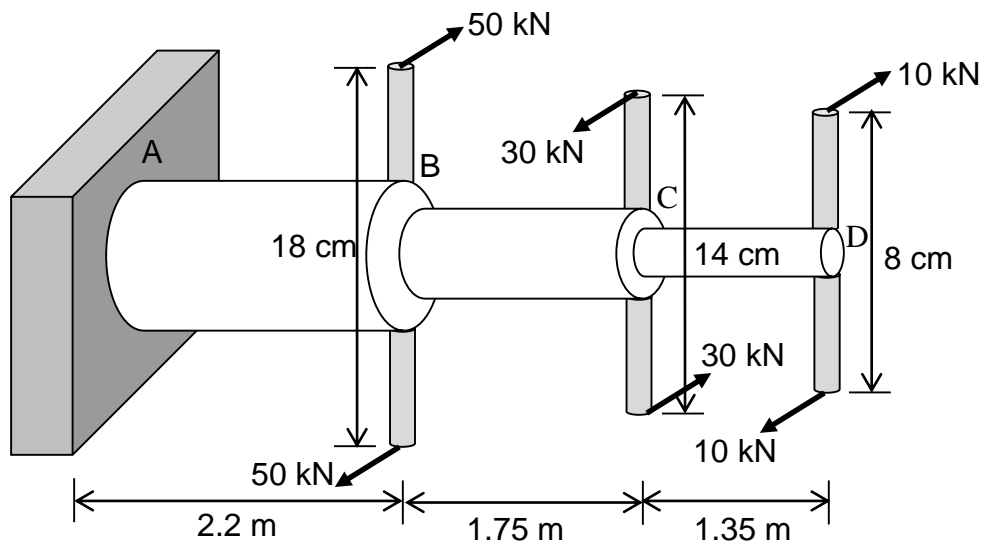

Figure 5
4. (a) A stepped shaft ABCD consisting of two hollow circular segments AB and BC and a solid circular segment CD is subjected to three pairs of forces which act at distances as shown in **Figure 5**. Segments AB and BC have outer diameters of 55 mm and 30 mm, respectively, with 6 mm thick. The diameter of segment CD is 20 mm. End A is fixed and the shear modulus of elasticity for the shaft is 32 GPa. Calculate: